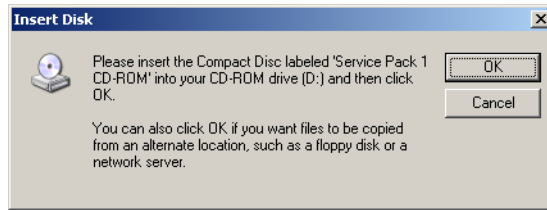

Figure D-46 Insert disk prompt
- When prompted as shown in figure D-46, insert disc containing Service Pack 1 and click the **OK** button to start the installation process.